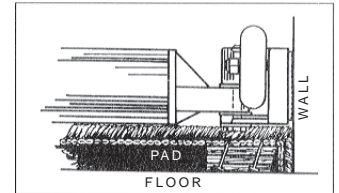

Figure 3
D. Turning the tail block over to its flat side helps it stay put for multiple stretches. (See figure 3.)
D. Turning the tail block over to its flat side helps it stay put, if necessary. (See figure 3.)